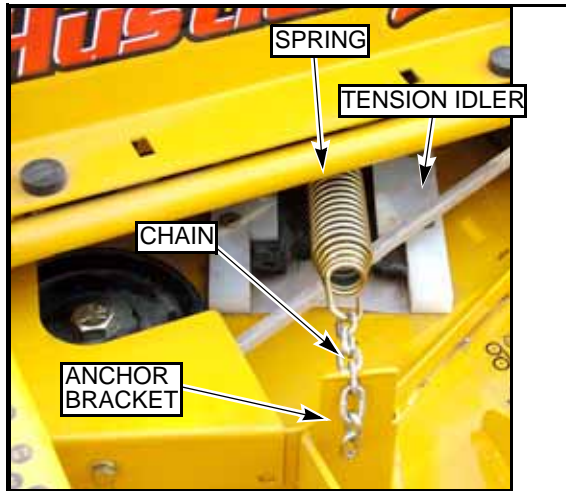

Fig. 9-18
4. Release the deck belt tension by pulling on the belt tension chain and sliding the chain out of the anchor bracket slot. This will relieve the tension on the deck belt idler spring. Fig. 9-18